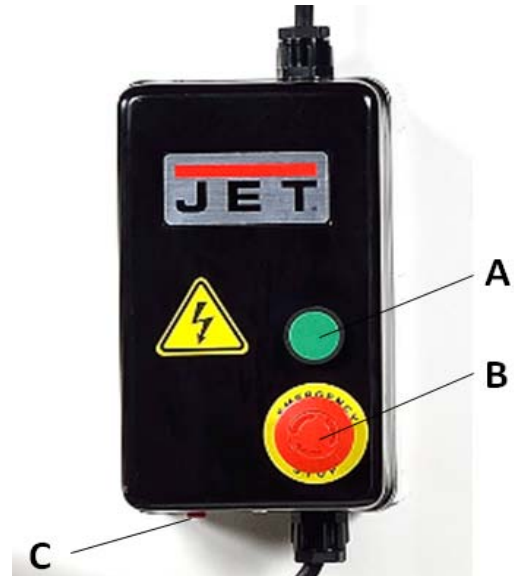

Figure 15
Press green start button (A, Figure 15) to start dust collector. Press red stop button (B) to stop.
To clear the remote controller, press and hold reset button (C, Figure 15) for 3 seconds until receiver “beeps” 3 times.
1. Press reset button (C, Figure 15) for 1 second until receiver “beeps” once.
3. Press and hold reset button (C) for 3 seconds until receiver "beeps" 3 times.